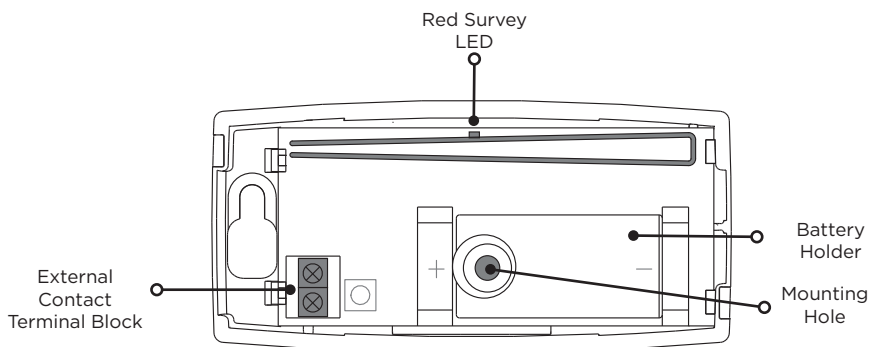

Figure 2: 1102 Interior
2. Observing polarity, place the battery in the holder and press it into place. Refer to Figure 2 during installation.
When mounting the 1102, refer to Figure 2 for battery and mounting hole locations.